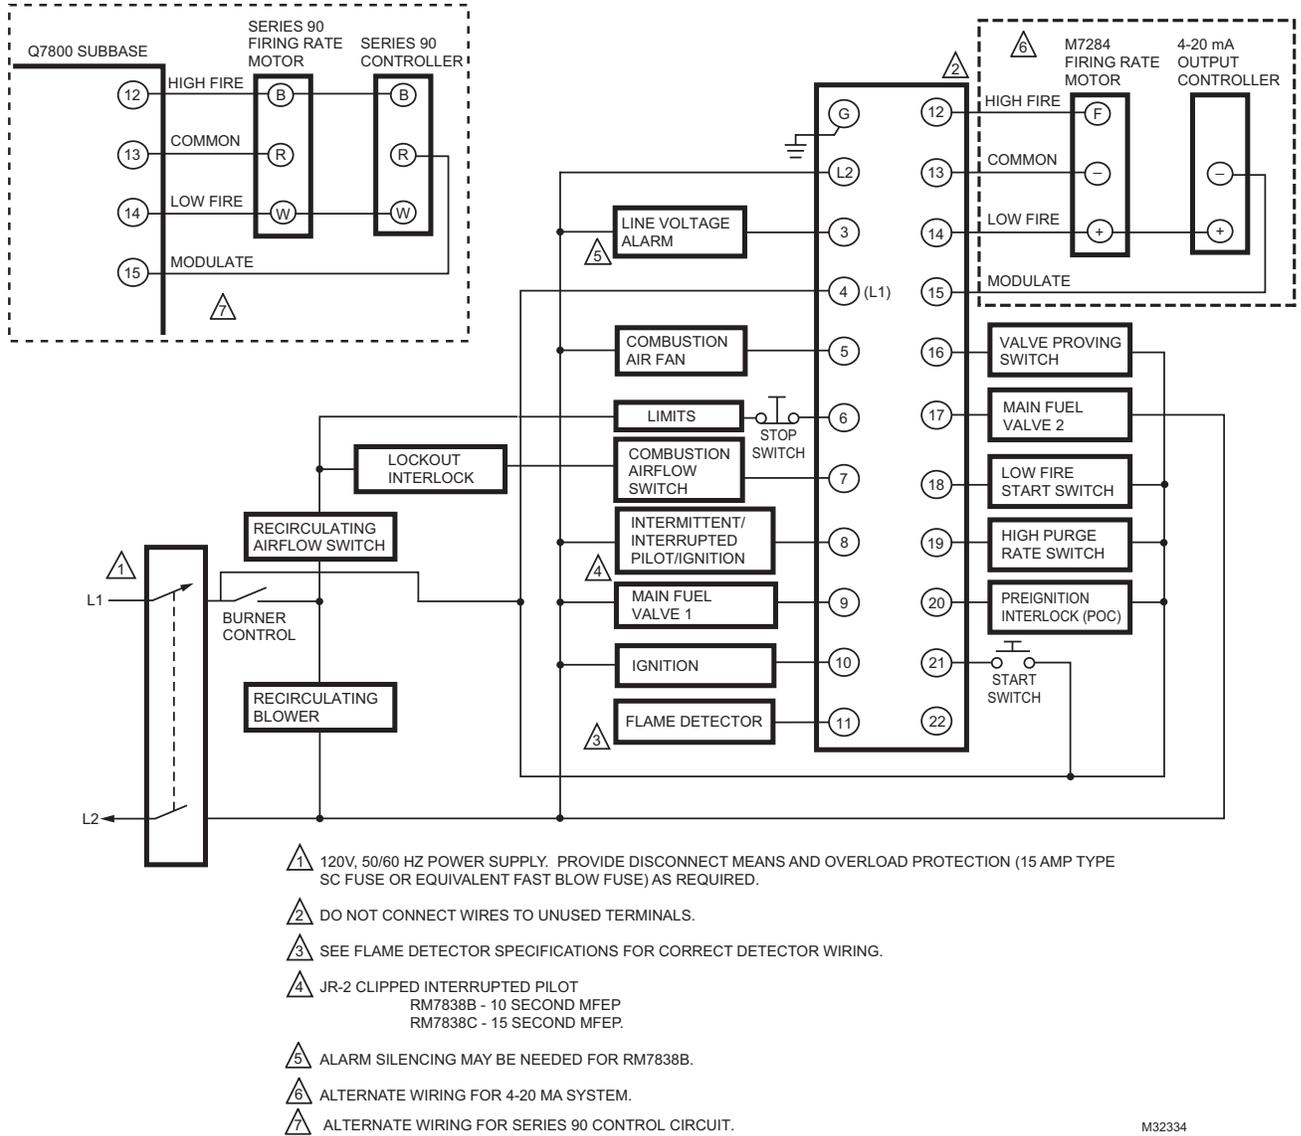

Fig. 4. Wiring subbase for RM7838B,C.
1. *Wiring connections for the relay modules are unique; refer to Fig. 4 or the appropriate Specifications for proper subbase wiring.*
1. Refer to Fig. 4 for proper subbase wiring.